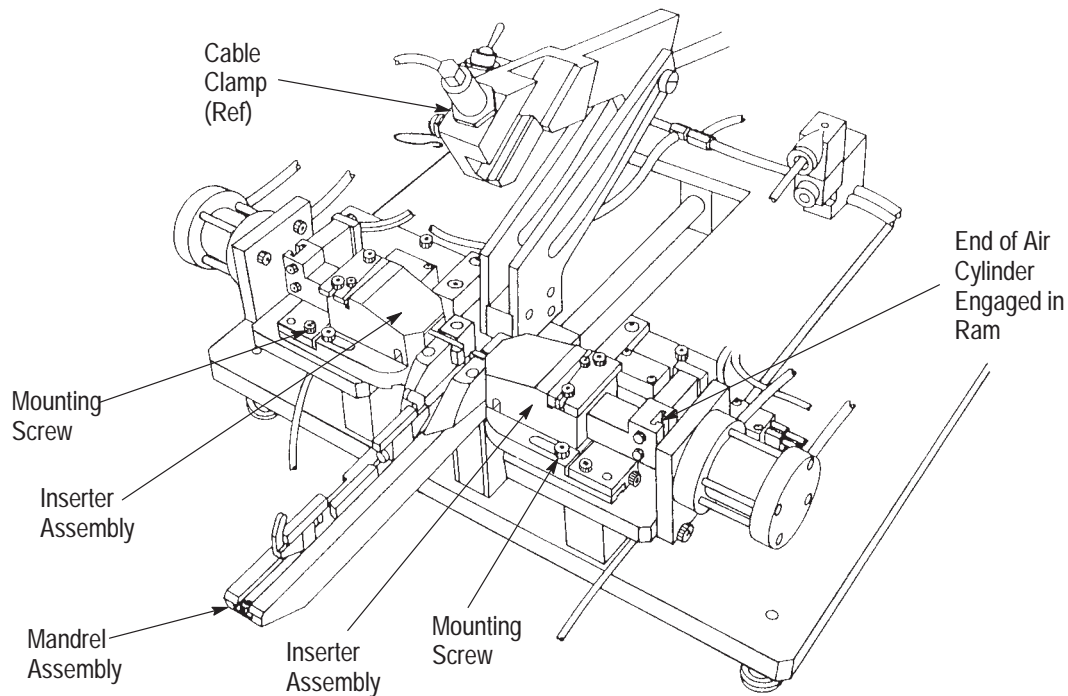

Figure 7
3. Insert and tighten the mounting screws with a 5/32-in. hex wrench. When properly mounted, the mandrel should appear as shown in Figure 7.
To install the clamp, locate the cable clamp so that it slides into the “T” slot in the mandrel assembly. When the clamp is in the desired position, tighten the hold-down screw with a 5/32-in. hex wrench. If using a 180° clamp, mount the back of the clamp assembly to the carriage as described in the instructions supplied with the clamp. Figure 7 shows a properly installed cable clamp.
The air switch on the clamp assembly should be attached to the “T” fitting on the machine’s main air line. Refer to Figure 7 and proceed as follows: